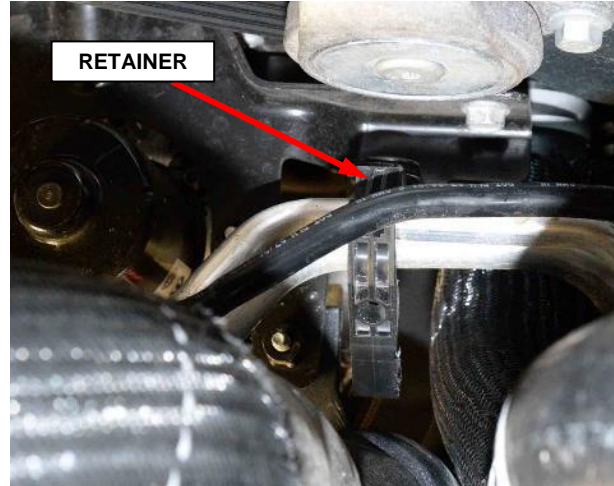

Figure 12 – A/C Compressor Pipe Retainer
18. Remove the A/C pipe retainer to air pump bracket (Figure 12).
41. Install the A/C pipe retainer to air pump bracket (Figure 12).